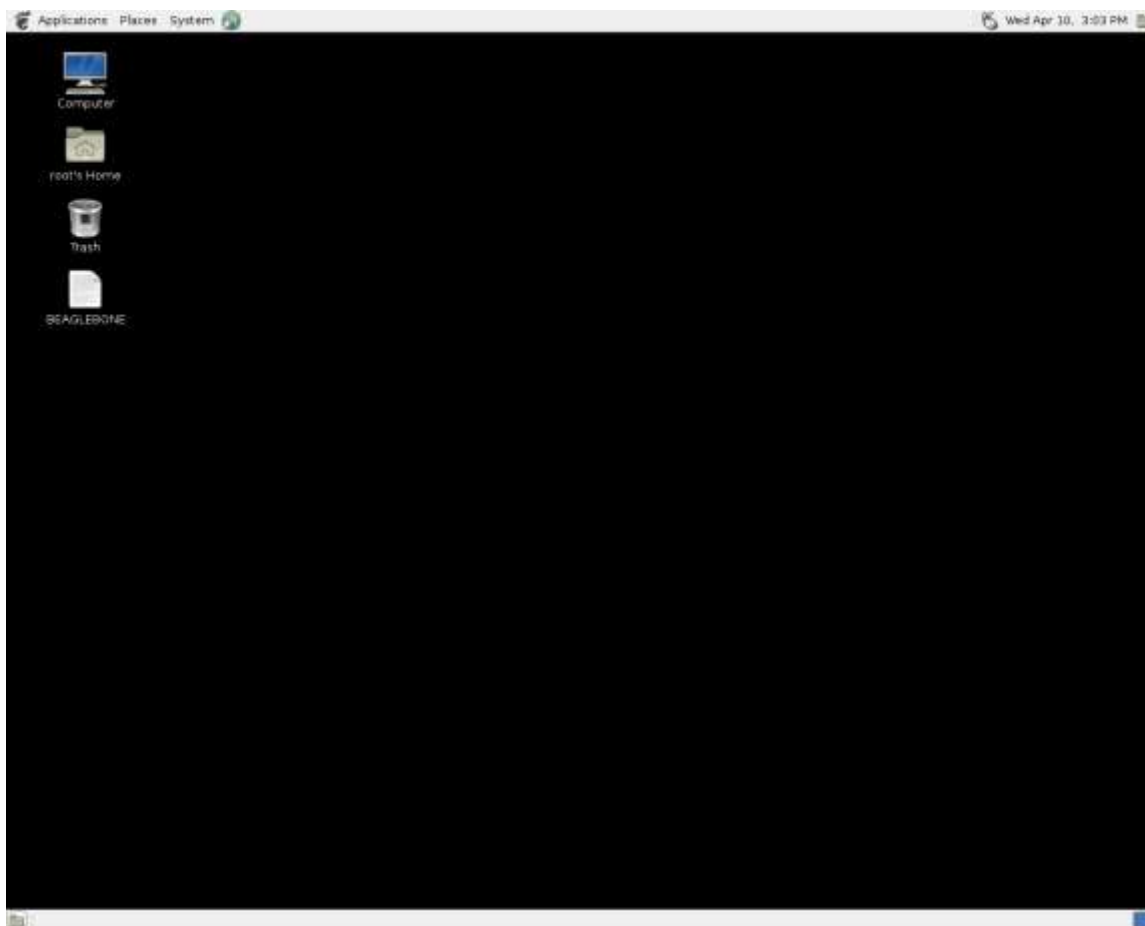

Figure 16. Desktop Screen
3. After a minute or two the desktop will appear. It should be similar to the one shown in **Figure 16**. HOWEVER, it will change from one release to the next, so do not expect your system to look exactly like the one in the figure, but it will be very similar.
4. And at this point you are ready to go! **Figure 16** shows the desktop after booting.